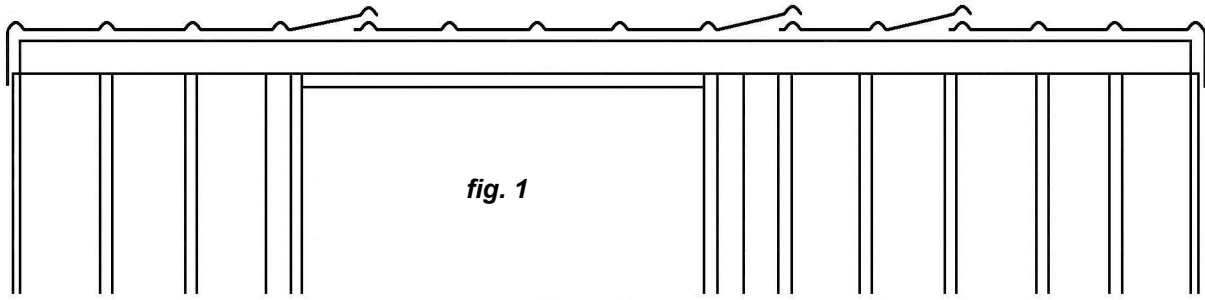

fig. 1
**Step 1:** Select one End Base Plate 1.690m (Green), one End Top Plate 1.690m (Red) and two Studs (Yellow). Lay out on flat surface and nail together using two 75mm nails per joint (**fig. 1**). Repeat with the other end frame.
**Step 1: Door Jambs:** Position left hand Door Jamb Flashing at correct measurement from left (**cladding detail**) and nail to Top Plate using a 30mm clout. Do not fit 50mm nails at this stage. Pre-drill holes to make nailing easier (**fig. 1**).
**Step 5:** Drill a hole through Door Jamb Flashings and Wall Sheets top and bottom. Nail with 50mm nails (**fig. 1**).
Nail left hand Door Jamb Flashing to Stud using three 30mm Clouts at equal spacings (**fig. 1**). Beside each 30mm Clout, rivet Door Jamb Flashing to Rib. Repeat with right hand Door Jamb Flashing.
**Standard Roof:** Position Roof Sheets as shown in **fig 1**. Make sure sheet joints at the back are flush. Rivet sheet joins, one rivet 200mm back from edge front and back. Fit two more rivets evenly spaced in centre of each join.
Position Roof Sheets as shown in **fig.1**. When fitting Clear Panel ensure it OVERLAPS Roof Sheets. Rivet sheet joints, one rivet 200mm from edge front and back. When riveting Clear Panel to Roof Sheets use sealed rivet with steel washer (**fig. 2**). Fit two more rivets evenly spaced in centre of each join.